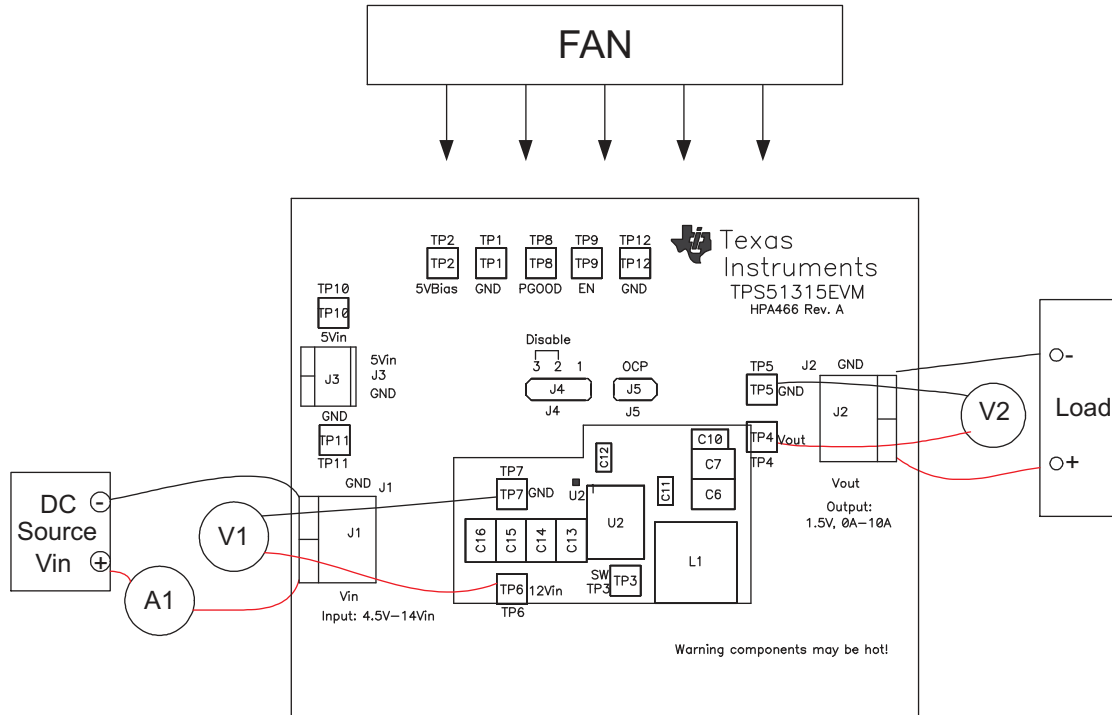

Figure 7-2. TPS51315-EVM Recommended Test Set Up
The input voltage source  $V_{IN}$  should be a variable DC source between 0 V and 14 V, capable of supplying 10 A. Connect  $V_{IN}$  to J1 as shown in Figure 7-2.
A voltmeter between 0 V and 15 V should be used to measure  $V_{IN}$  at TP6 ( $V_{IN}$ ) and TP7 (GND). A voltmeter between 0 V and 5 V for output voltage measurement at TP4 ( $V_{OUT}$ ) and TP5 (GND). A current meter between 0 A and 10 A (A1) as shown in Figure 7-2 is used for input current measurements.
Figure 7-2 is the recommended test set up to evaluate the TPS51315-EVM. Working at an ESD workstation, make sure that any wrist straps, bootstraps or mats are connected referencing the user to earth ground before power is applied to the EVM.
1. Prior to connecting the DC input source  $V_{IN}$ , it is advisable to limit the source current from  $V_{IN}$  to 10 A maximum. Make sure  $V_{IN}$  is initially set to 0 V and connected as shown in Figure 7-2.
Place a fan as shown in Figure 7-2 and turn on, making sure air is flowing across the EVM.